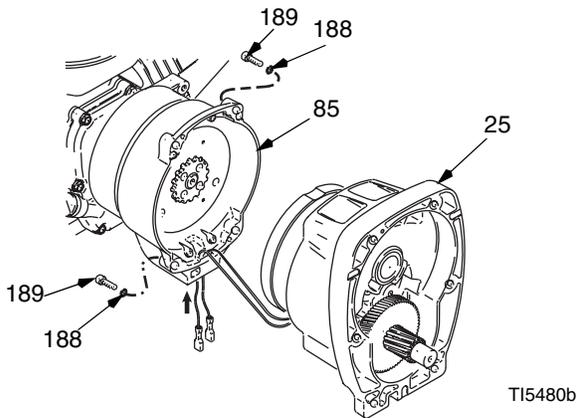
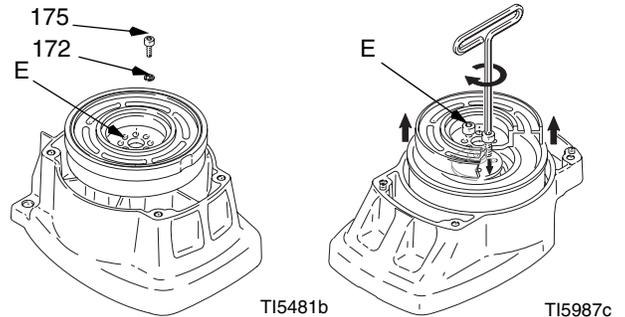

FIG. 4
FIG. 5
4. FIG. 4. Remove four screws (189) and lockwashers (188) and pinion assembly (25).
5. FIG. 5. Place pinion assembly (25) on bench with rotor side up.
6. Remove four screws (175) and lockwashers (172). Install two screws in threaded holes (E) in rotor. Alternately tighten screws until rotor comes off.
9. FIG. 5. Place pinion assembly on bench with rotor side up.
10. Apply Loctite to screws. Install four screws (175) and lockwashers (172). Alternately torque screws to 125 in-lb until rotor is secure. Use threaded holes to hold rotor.
11. FIG. 4. Install pinion assembly (25) with five screws (189) and lockwashers (188).